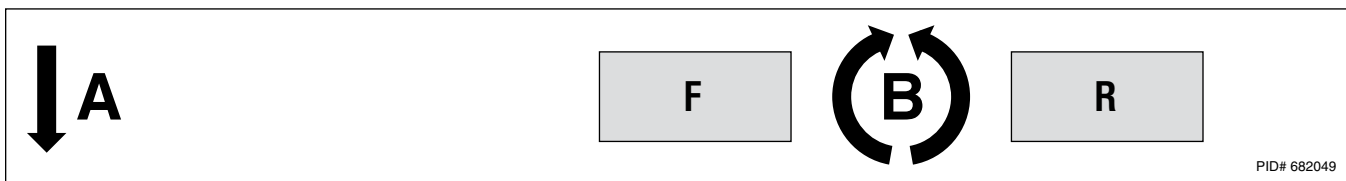

Figure 5-9. Shift actuator manual override decal placement.
11. Apply the correct manual override decals (see figure 5-8 and figure 5-9) to the cable access covers.